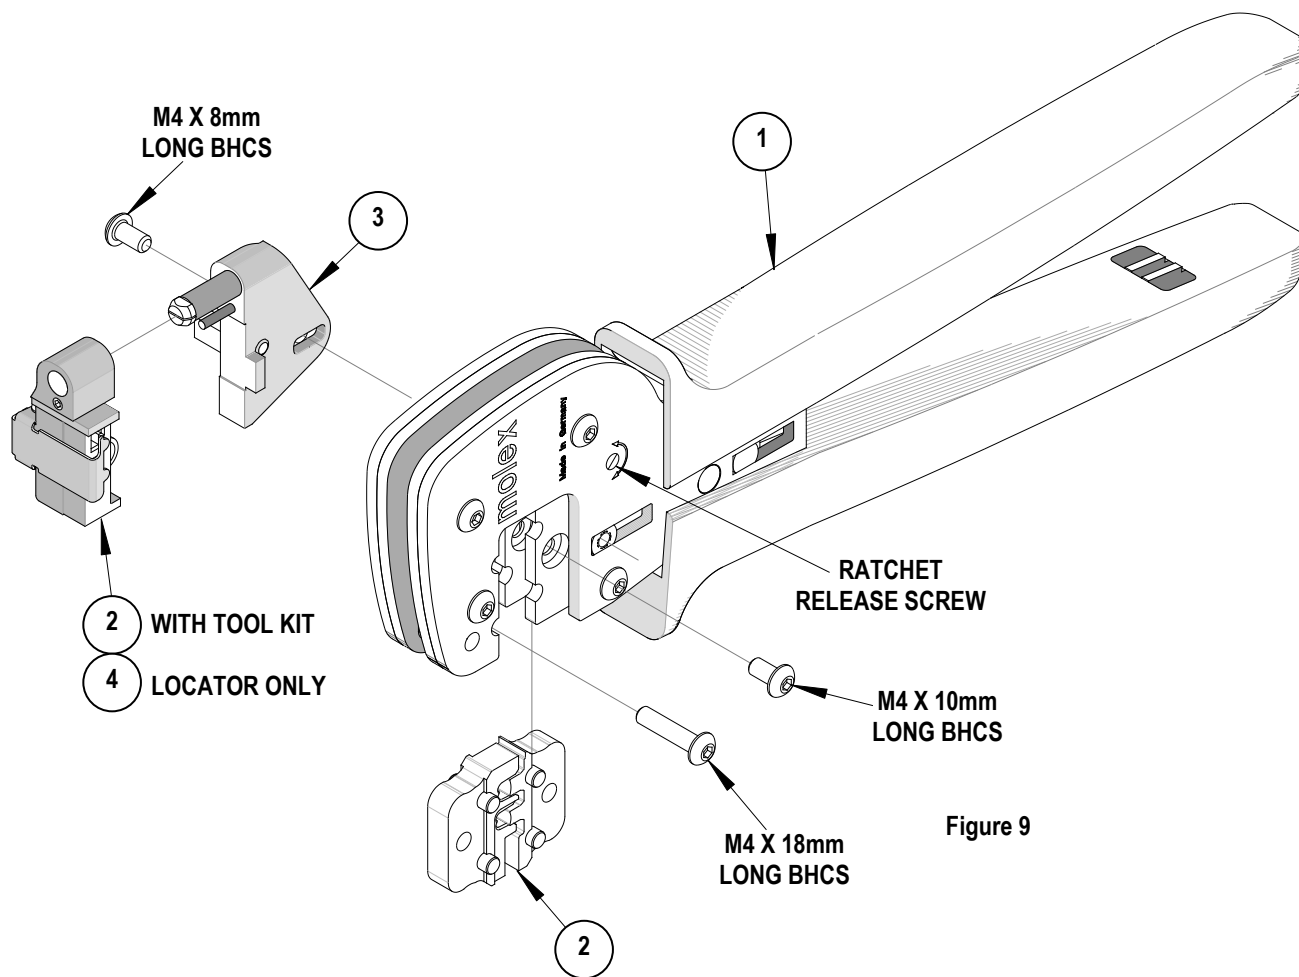

Figure 9
**Miscrimps or Jams for Crimp Hand Tools Only (See Figure 9)**
Should this tool ever become stuck or jammed in a partially closed position, **Do Not force the handles open or closed.** The tool will open easily by rotating the small slotted screw marked with an arrow. See Figure 9.